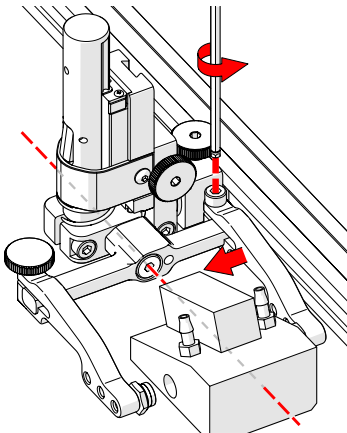

Fig. 106 - Adjust inner arm
4. Position the wedge on the inner probe holder arm (Fig. 106).
TIP: The probe holder yoke can accommodate many different probe and wedge sizes of varying widths. It is best to centre the wedge with the yoke's pivot axis. This can reduce wedge 'rocking' when scanning. Position the inner probe holder arm accordingly (Fig. 106) using the supplied 3 mm hex driver (Fig. 38).